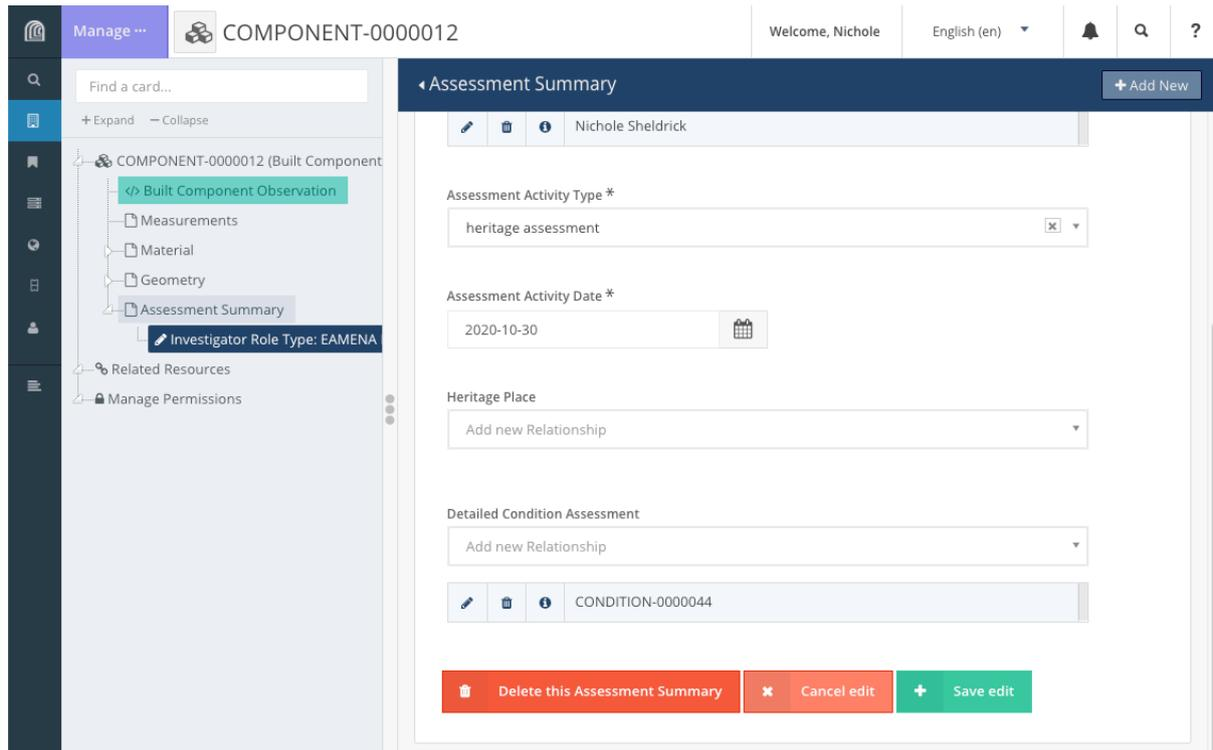

Figure 12
- A unique CONDITION-number will be assigned to the record you just made and it will appear in the light blue table below this field (Figure 12).